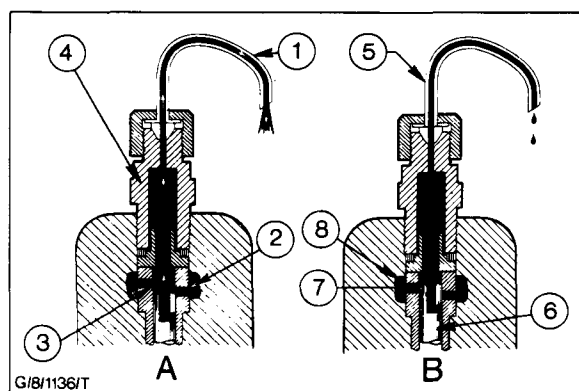

Fig. 13 - Spill Cut-Off Point
5. Rotate the pump camshaft slowly and smoothly, by hand, until the flow from the spill pipe changes to a slow drip on the next element in the engine firing order (Fig. 13). Observe and note the spill cut-off point reading on the phasing ring for use later.